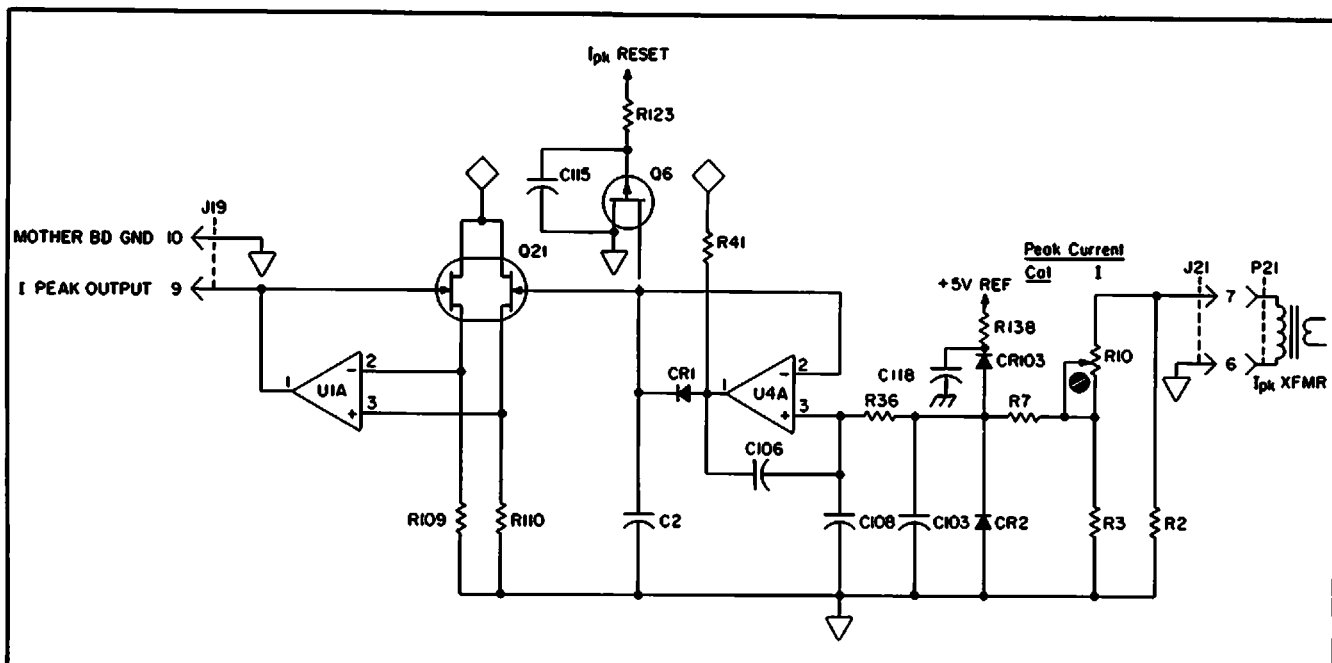

Figure 2-51
The Defibrillator Control PCB originates the discharge command, which lasts about 120 msec., through J19, pin 13. This high signal (1) opens circuit Q6 (Figure 2-51), preparing the I/pk sample/hold capacitor C2, and (2) drives Q3, activating the Patient Relay.
2.3.12.3 Peak Current Detector Circuit (Figure 2-51)